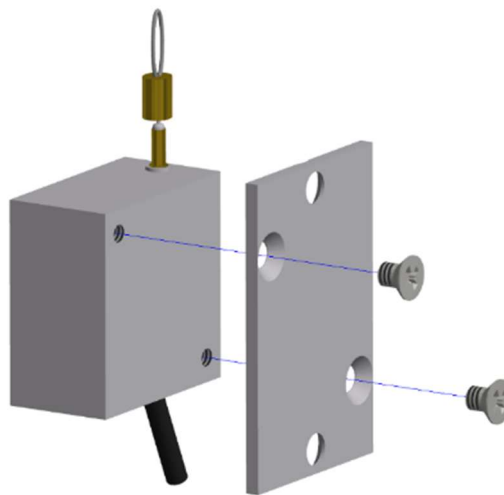

Figure 9-25. Install String Pot Mount Plate (474-5305) to String Pot Assembly (SA572-S90)
9.2.17 Separate the Mini String Pot (SA572-S90) from the String Pot Mount Plate (474-5305) by removing two #2-56 X 1/8" FHMSF as shown in Figure 9-25.